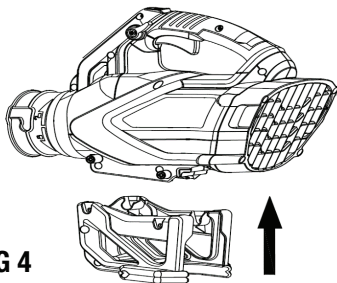

FIG 4
1. Place battery cartridge right underneath the blower housing as shown in Fig 4.